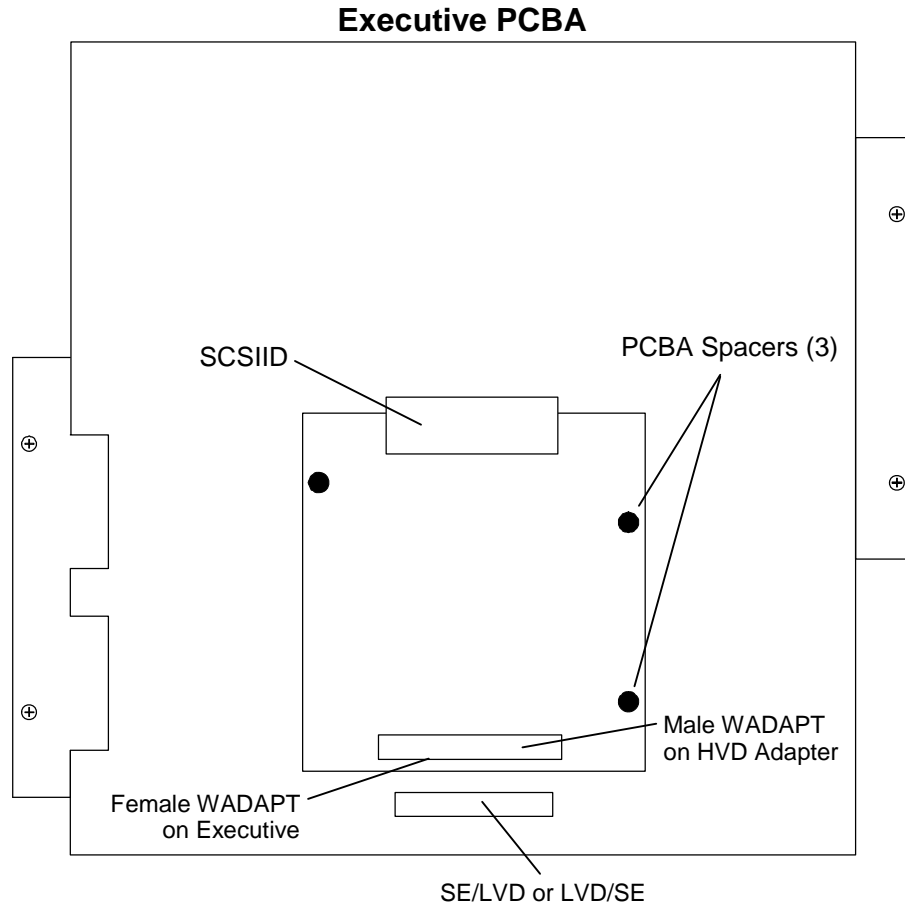

Figure 7-45 HVD Adapter PCBA
3. Disconnect the SCSI cable from connector SCSIID on the HVD Adapter PCBA (Figure 7-45).
4. Gently pull the HVD Adapter PCBA away from the Executive PCBA (Figure 7-45).
1. Insert all three PCBA spacers on the HVD Adapter PCBA into the mounting holes in the Executive PCBA making sure that the female WADAPT connector is aligned with the male ADAPT connector on the Executive PCBA. See Figure 7-45.
3. Connect the SCSI Cable Assembly to connector SCSIID on the HVD Adapter PCBA (Figure 7-45).